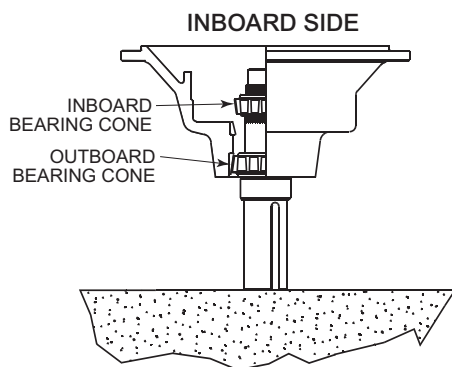

Figure 6.3.4.4 Placing Inboard Bearing Cone onto Shaft
**NOTE:** DO NOT push on bearing rollers or bearing cage; reference Figure 6.3.4.2.